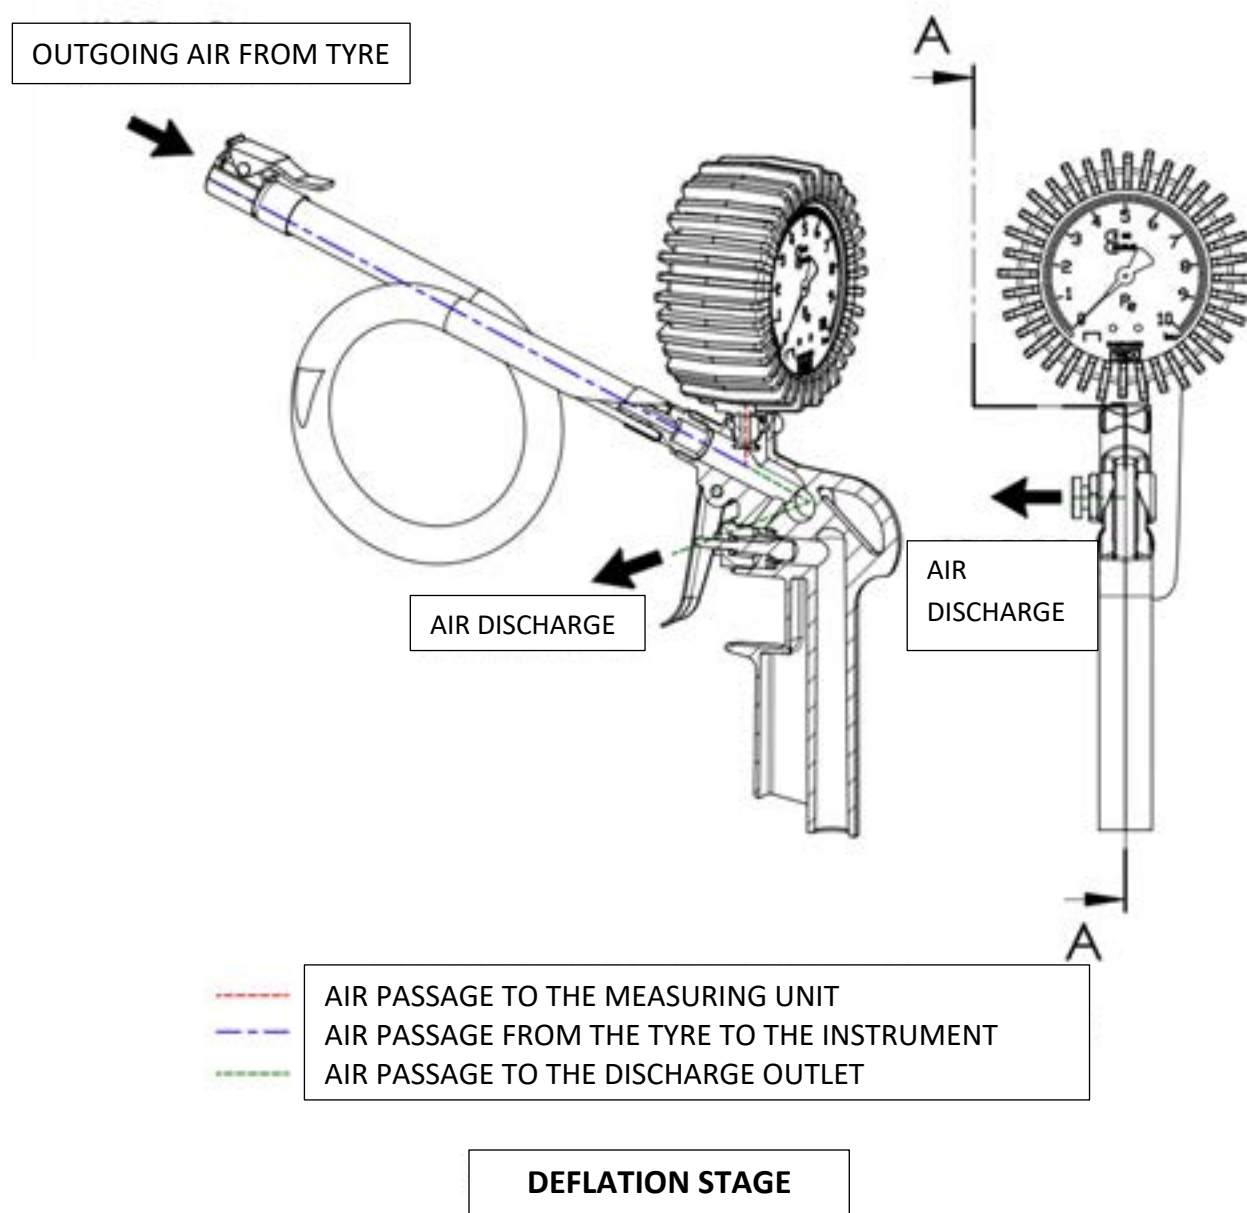

FIG. 3 – TYRE PRESSURE GAUGE “60 D/T” (vers. 63 mm)
- **Tyre pressure deflation stage (Fig. 3)**